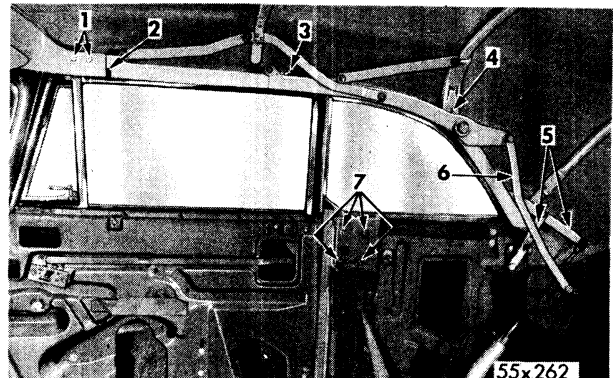

Fig. 68—Convertible Top Adjustments
**To avoid stripping adjusting screw threads, loosen Allen set screws locking the adjusting screws in hinge and rail brackets (Fig. 68) before attempting to adjust locking screws.**